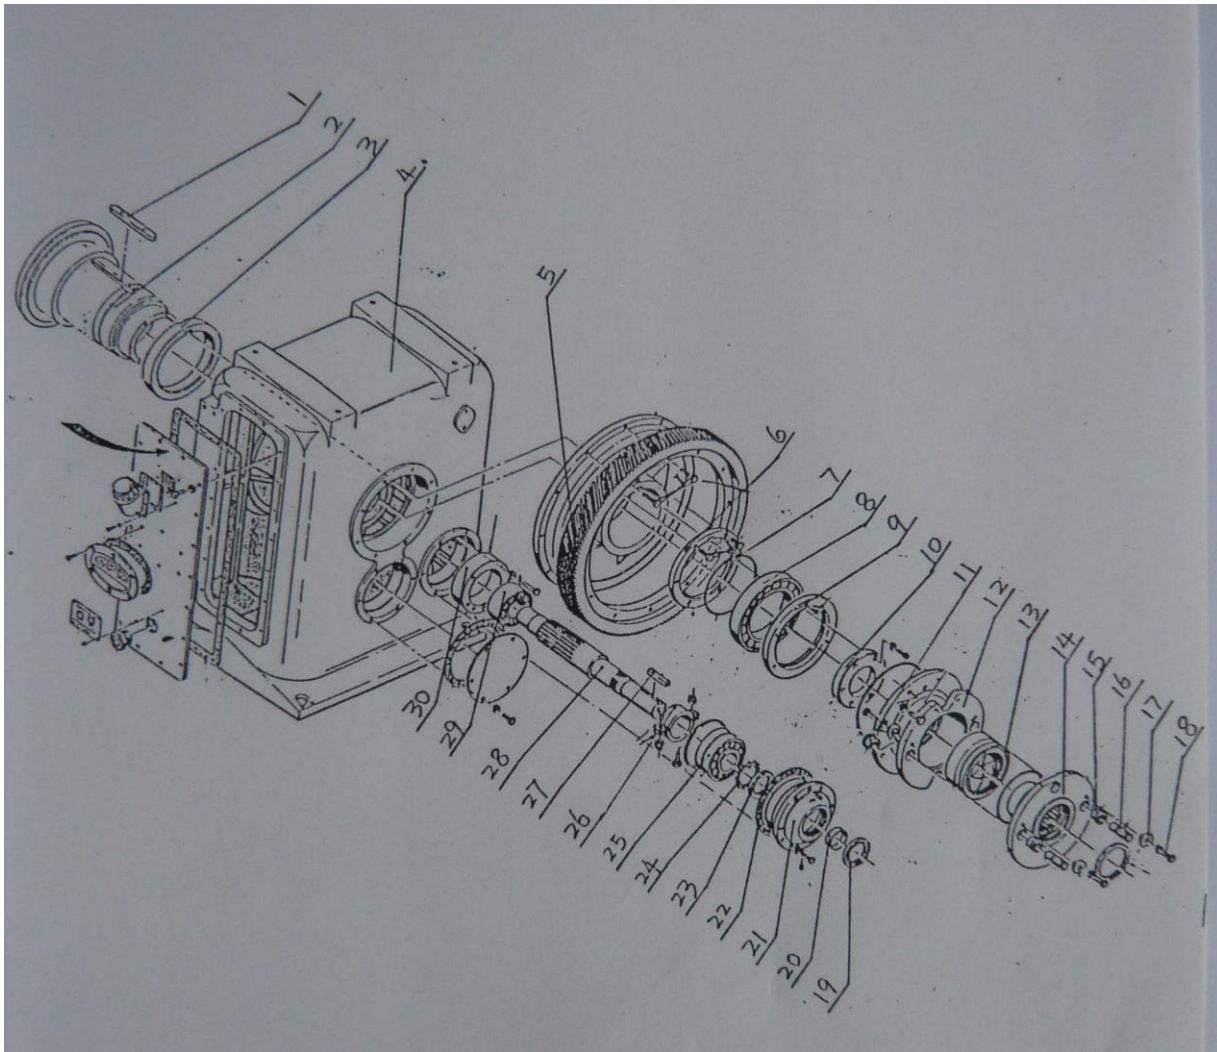

Figure 13 Gear shaft, big gear installation schemes
The disassembling and assembling steps of pinion shaft are as following (see Figure13):
7.3.3.3 Empty big gear shaft, tear open outfit, see figure 13 and 15 shows;
- B. remove bolts 18, were taken safety pin linking piece 17 and under safety pin 16; (figure 13).
G. From the side of the gear box 4 out of 5 big gear (figure 13).
7.3.4.2 Safety pin tear open outfit, see figure 13.